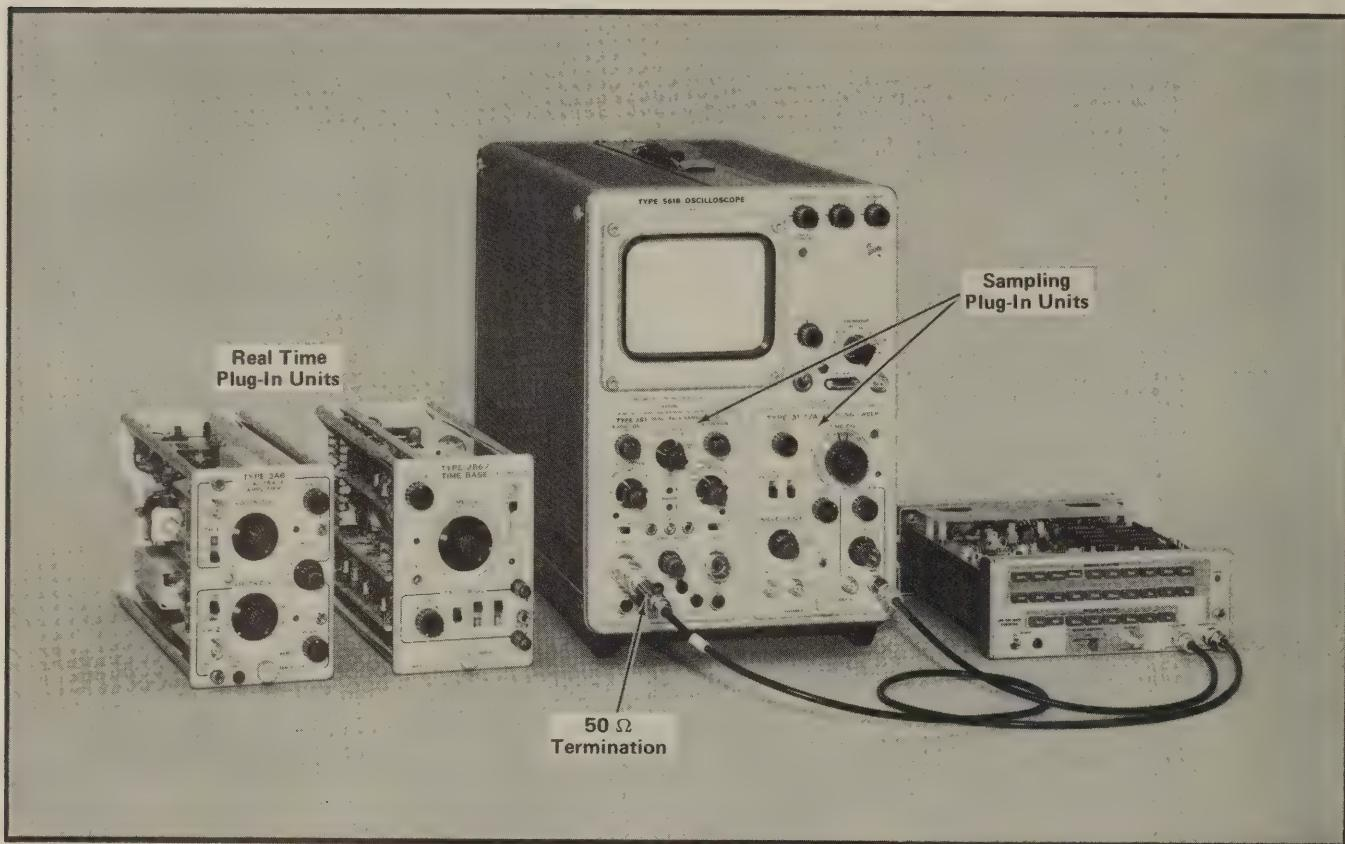

Fig. 5-5. Test equipment setup to check/adjust multiplier output. (50 ns, 10 ns, 5 ns, 2 ns.)
①
- Test equipment setup is shown in Fig. 5-5.